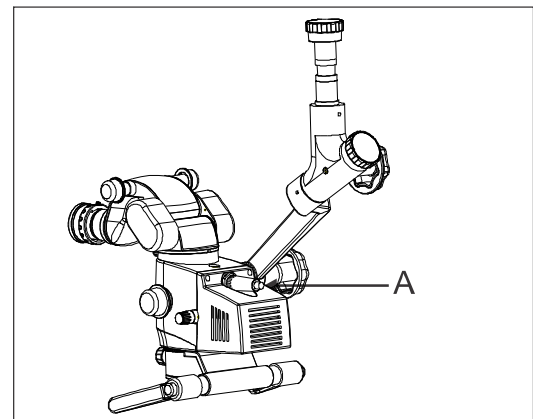

Fig. 5
- Insert the power supply wire into the receptacle in the microscope till it properly tighten into position as shown as A in Fig. 5